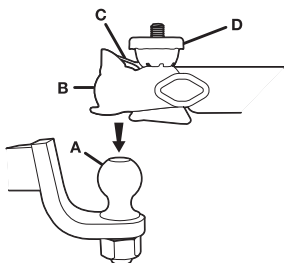

Fig. 2
Push down on the latch (C) and fully loosen hand-wheel (D) by turning counter-clockwise. Lower the coupler (B) onto the hitchball (A) as shown (Fig 2).